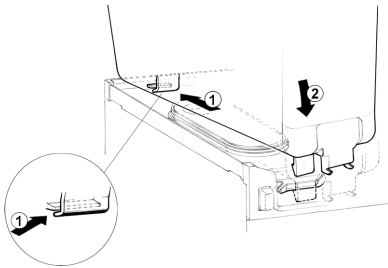

figure 9
**5** Place bowl on the unit. Wet the gasket for ease of insertion. Please take care that the hook on the backside of the bowl be inserted properly in its seat on the upper drip plate. (see figure 9).